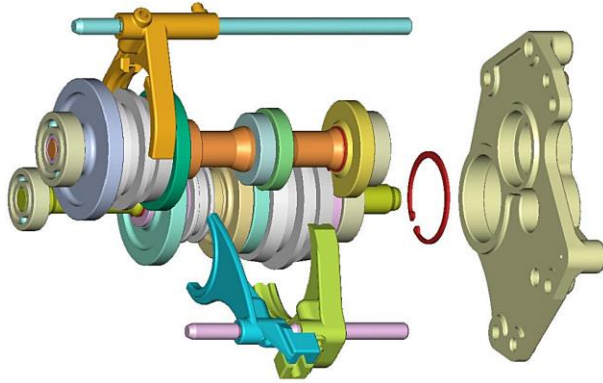

Fig.5-29.
- c.Remove the shift stays from the bearing metal and remove the gears assemblies as shown Fig.5-29.